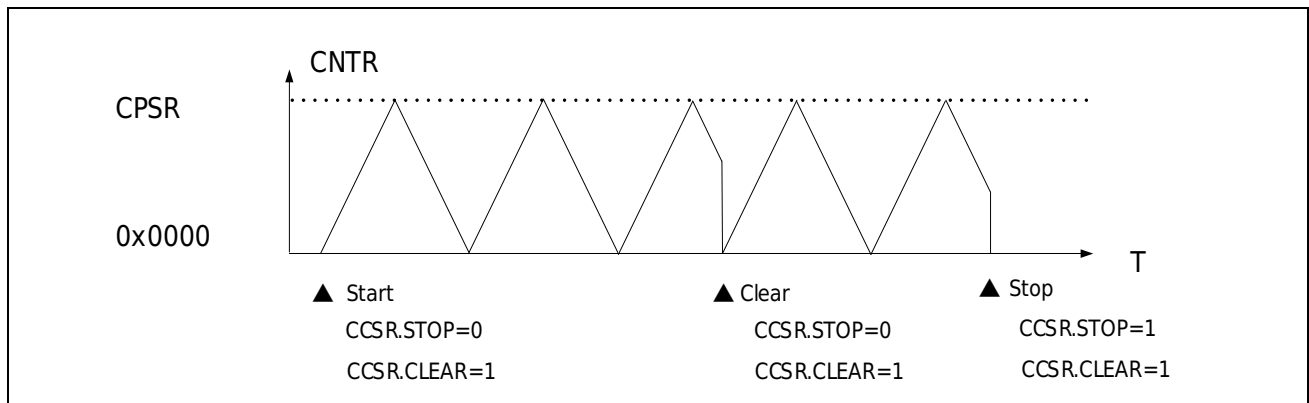

Figure 21-5 Timer4 triangular wave mode counting action
2) The triangular wave counting operation and control flow are as Figure 21-5 shown.